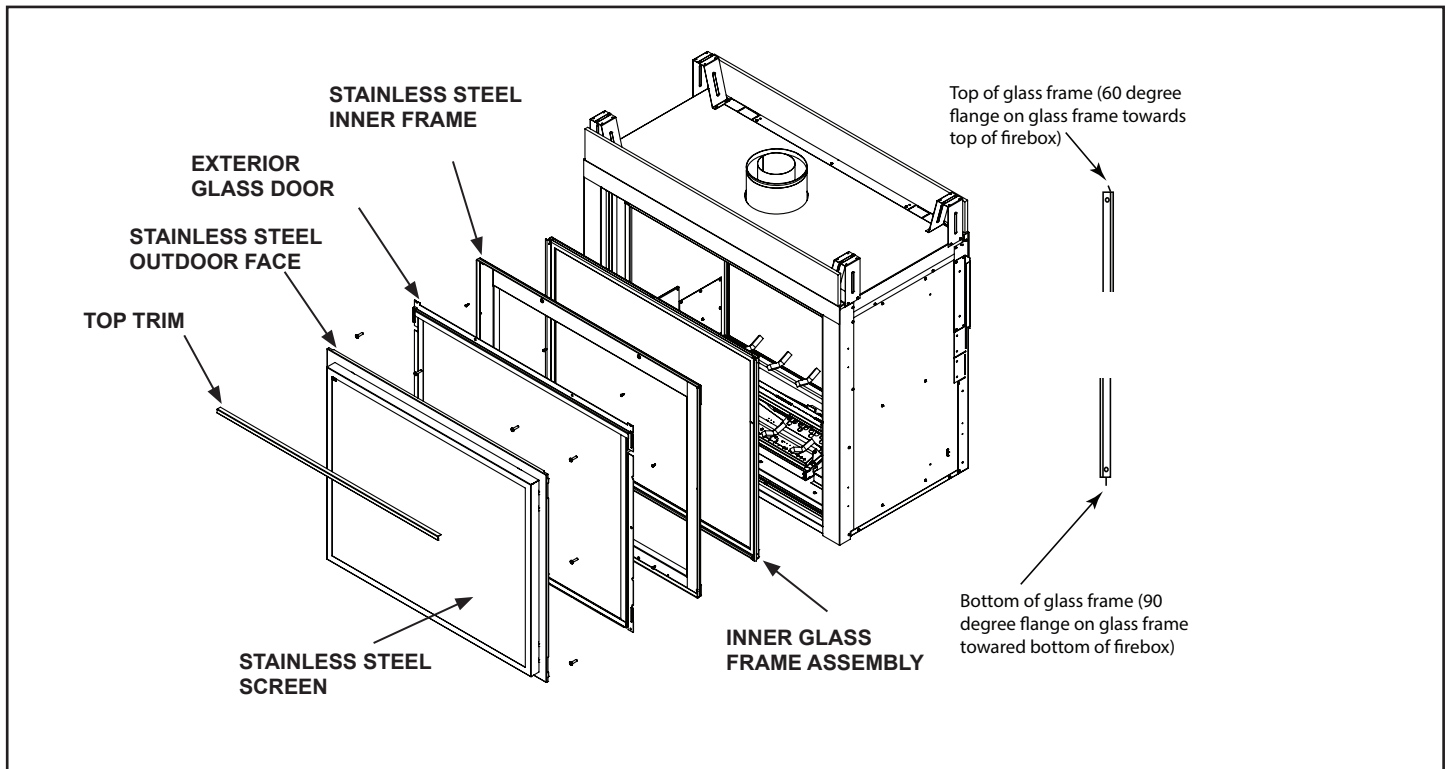

Figure 10.7 Remove Safety Barrier and Glass Frame
1. Remove the top trim at the top of the stainless steel outdoor face see Figure 10.7.
2. Remove the stainless steel screen face by lifting up and out. See Figure 10.7.
3. Remove exterior glass door assembly by unfastening the top four machine bolts, the two side bolts and the two bottom corner bolts. Loosen the two middle bottom bolts but do not remove total to help support the assembly. See Figure 10.7.
5. Remove the stainless steel inner frame by unfastening the two machine bolts at the bottom and the ten stainless steel screws that secure the inner frame to the stainless steel face. Pull the inner frame out. See Figure 10.7.
6. Remove the inner glass frame by releasing the three latches located at the top of the firebox. Tilt glass frame away from the unit. Lift the glass frame up and away from the unit. See Figure 10.7.